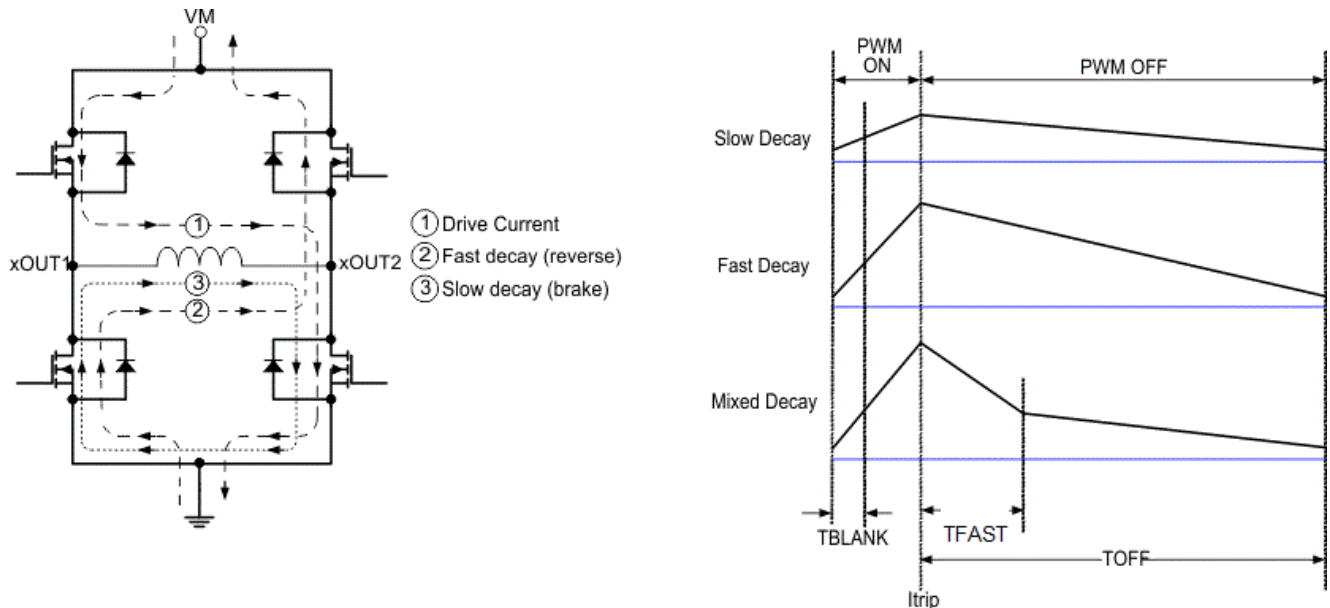

Figure 7-5. Decay Modes
During PWM current chopping, the H-bridge is enabled to drive through the motor winding until the PWM current chopping threshold is reached. This is shown in Figure 7-5, Item 1.
Once the current threshold is reached, the H-bridge can operate in two different states, fast decay or slow decay. In fast decay mode, once the current level has been reached, the H-bridge reverses state to allow winding current to flow in a reverse direction. Fast decay mode is shown in Figure 7-5, item 2. In slow decay mode, winding current is re-circulated by enabling both of the low-side FETs in the bridge. This is shown in Figure 7-5, Item 3.